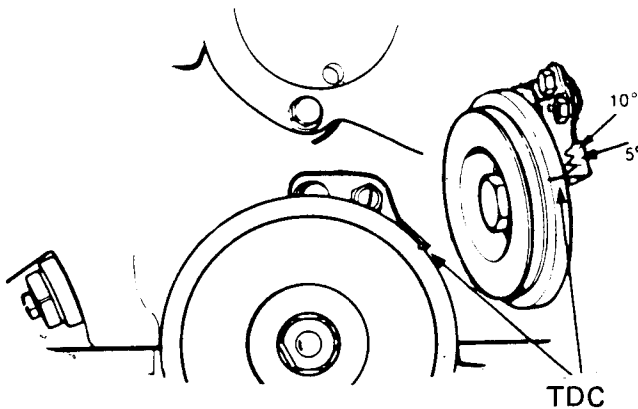

Fig B4.68
- (14) Refer to Fig B4.68. Turn the engine until the mark on crankshaft pulley lines up with the TDC mark on the engine block.